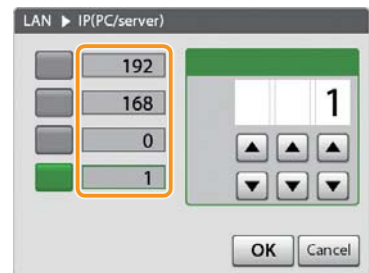

Figure 3-93
- Input the values into all of the boxes with the same operation as in steps 3 and 4. (Figure 3-93)